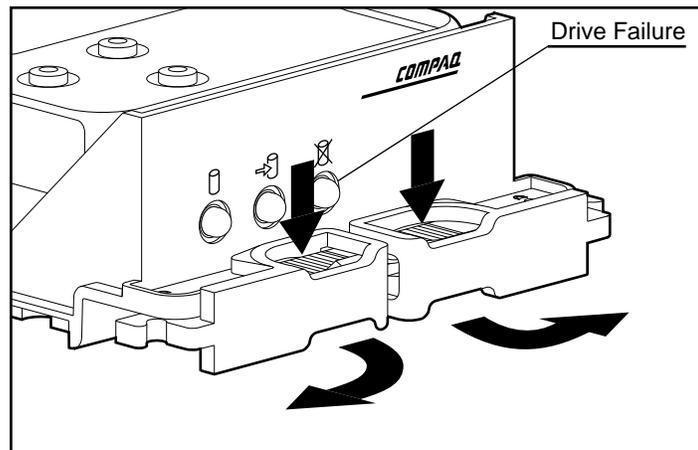

Figure 3-5. Compaq ProLiant Hard Drive
2. Identify the failed drive by finding the drive tray with the drive failure light illuminated as shown in Figure 3-5.